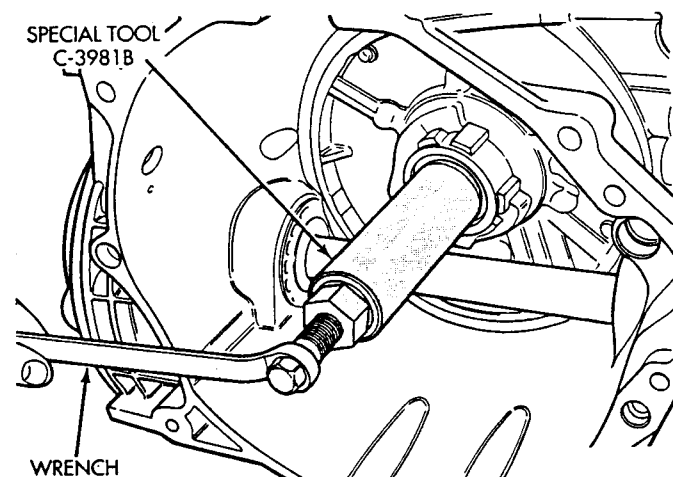

Fig. 5 Oil Seal Removal
(1) Remove the transaxle from the vehicle.
(2) Remove the torque converter from the transaxle bell housing.
(3) Use special tool C-3981B to remove oil pump seal (Fig. 5).